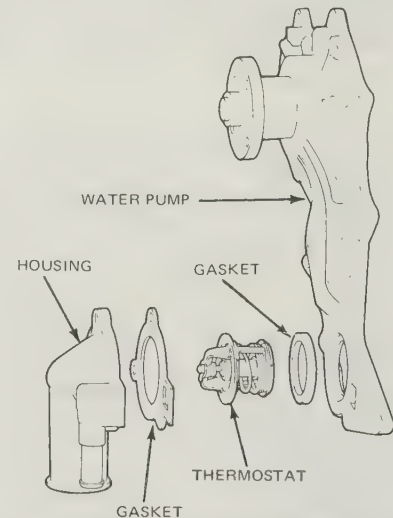

Fig. 2.8. Thermostat assembly (V6 engine) (Sec. 7)
- 5 Remove the inner circular gasket and withdraw the thermostat noting which way round it is fitted (see Fig. 2.8).